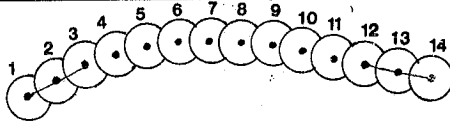

Fig. 9 Pin overlap pattern when installed one at a time.
15. Some situations require installing pins one at a time (See Fig. 9). This process is acceptable but slower because of time lost in changing tools. It is necessary to always make sure that there are absolutely no spaces left between the pins no matter which installation process is used.